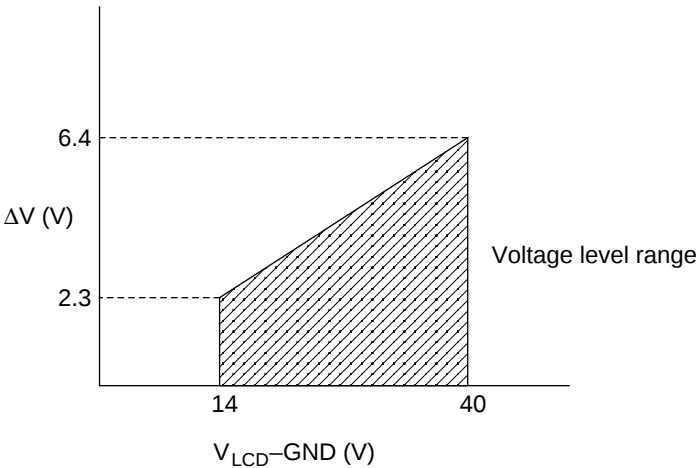

Figure 6 Relation between $V_{LCD-GND}$ and ΔV
- All voltages must be within ΔV , $V_{LCD} \geq V_1 \geq V_6 \geq V_{LCD} - 7.0$ V, and 7.0 V $\geq V_5 \geq V_2 \geq GND$. Note that ΔV depends on the power supply voltage $V_{LCD} - GND$ (figure 6).
Note: 1, 2 The load circuit shown in figure 6 is connected.